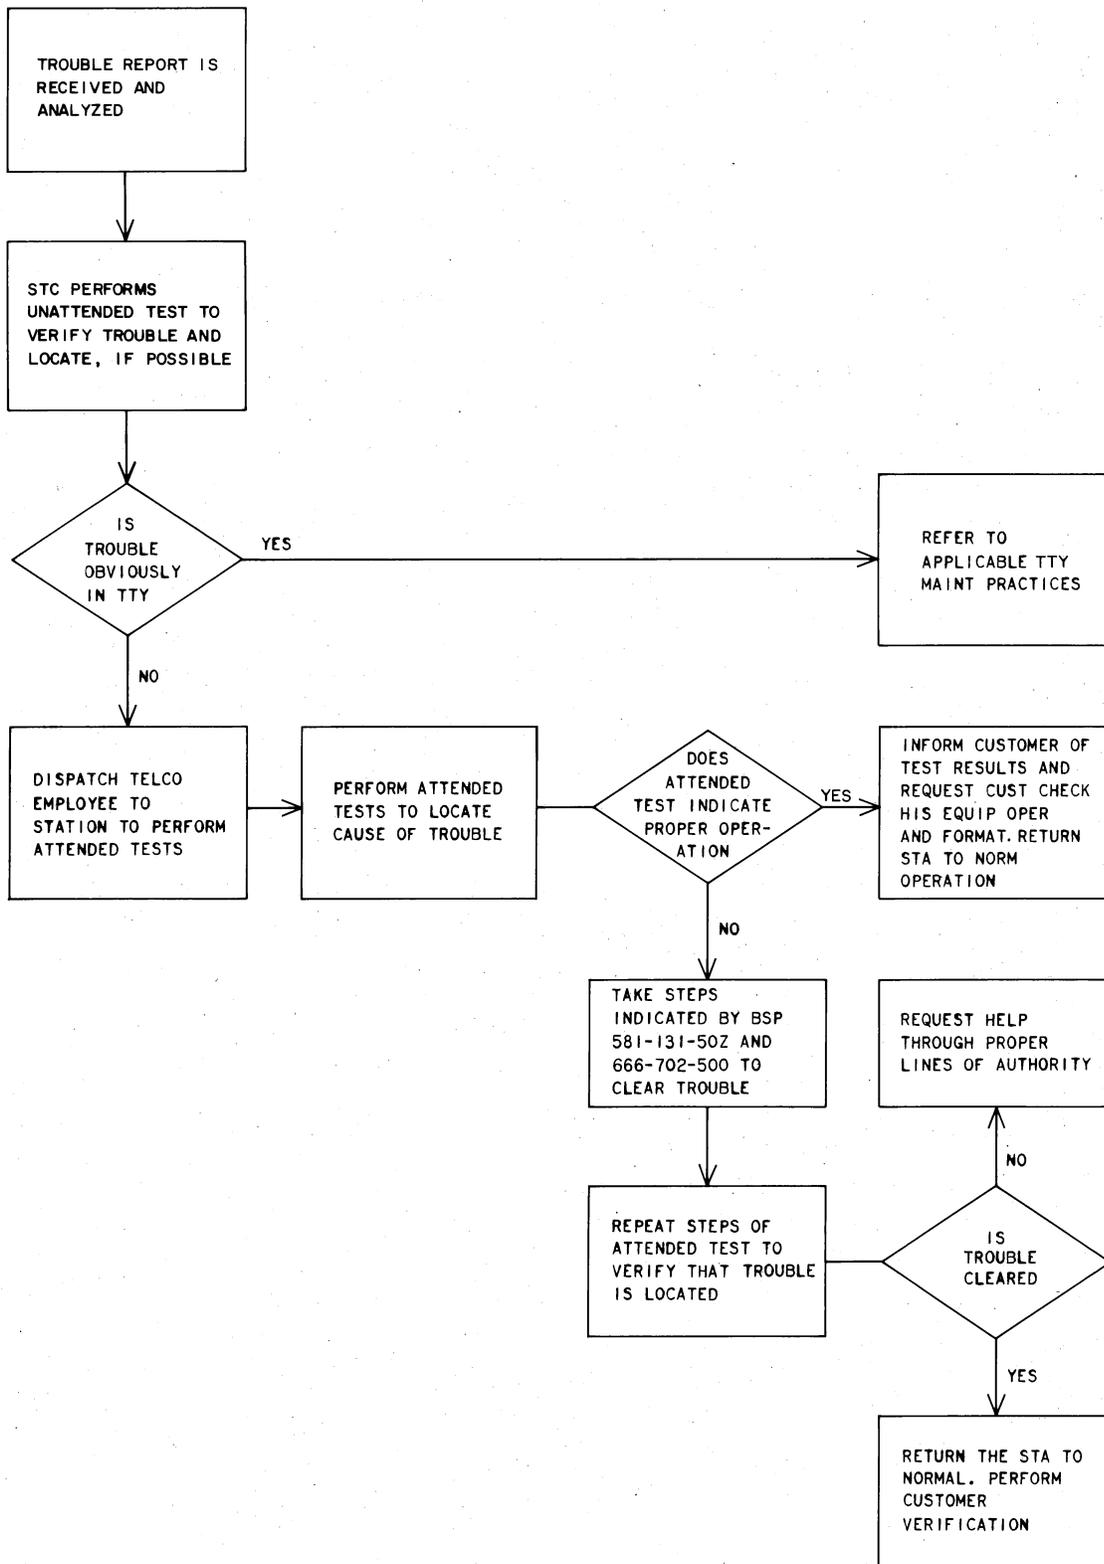

Fig. 7—Flowchart—Maintenance Philosophy and Troubleshooting Procedure
4.01 Maintenance of the DSCS station should be performed in accordance with the flowchart shown in Fig. 7. This chart is provided as a guide for an organized trouble locating procedure with a minimum amount of time spent to locate a reported